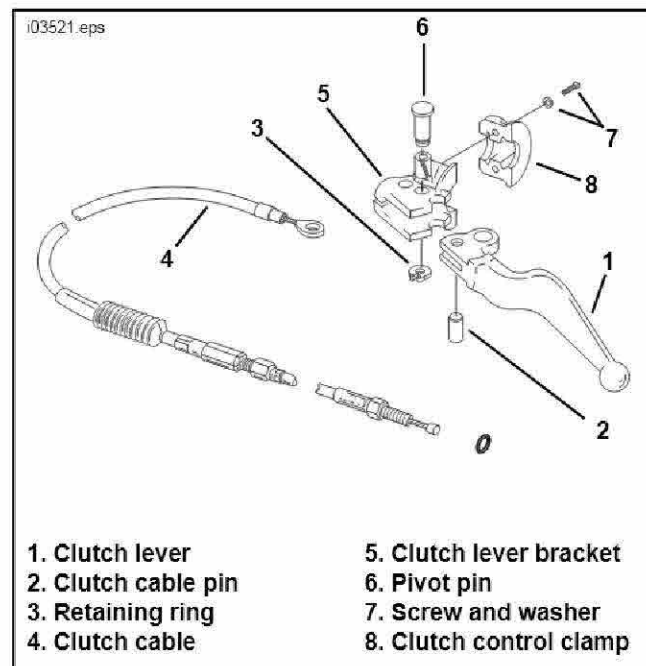
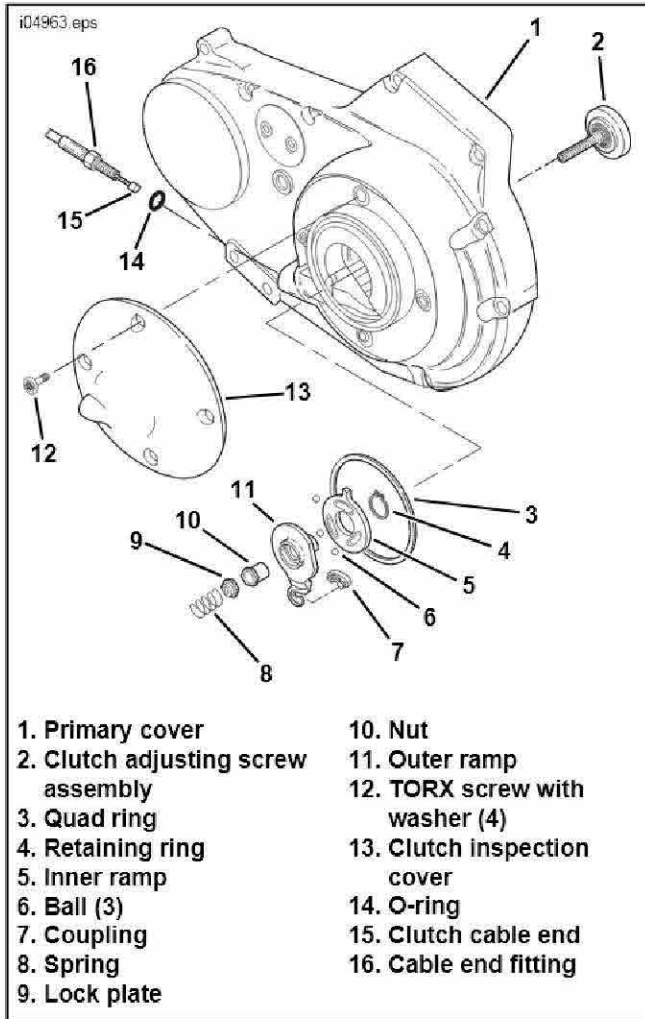

Figure 2. Clutch Cable Components
Figure 3. Clutch Release Mechanism
2. See Figure 2. Remove retaining ring (3) and pivot pin (6).
3. Remove clutch lever (1) from clutch lever bracket (5).
4. Remove clutch cable pin (2). Disconnect upper section of clutch cable (4) from lever (1).
5. See Figure 3. Using T-27 TORX driver, remove four TORX screws with washers (12) to remove clutch inspection cover (13). Exercise caution to avoid damaging or dislodging quad ring (3) in primary cover (1).
1. See Figure 3. Obtain Braided Stainless Steel Clutch Cable. Apply a light coat of oil on new o-ring (14) and install o-ring (Part Number 11179) onto threaded portion of clutch cable end (16). Turn fitting clockwise to install into primary cover (1). Tighten fitting to 3-5 ft-lbs (4-7 Nm).
2. Fit coupling (7) over cable end with the rounded side inboard and the ramp connector button outboard. With retaining ring side of ramp assembly facing inward, place hook of ramp around coupling button and rotate assembly counterclockwise until tang on inner ramp (5) fits in slot of primary cover (1).
3. Thread nut (10) on adjusting screw (2) until slot of screw is accessible with a screwdriver. Fit nut hex into recess of outer ramp (11) and turn adjusting screw counterclockwise.
5. See Figure 2. Connect end of clutch cable upper section to clutch lever (1) using clutch cable pin (2).
6. Position lever within clutch lever bracket (5).